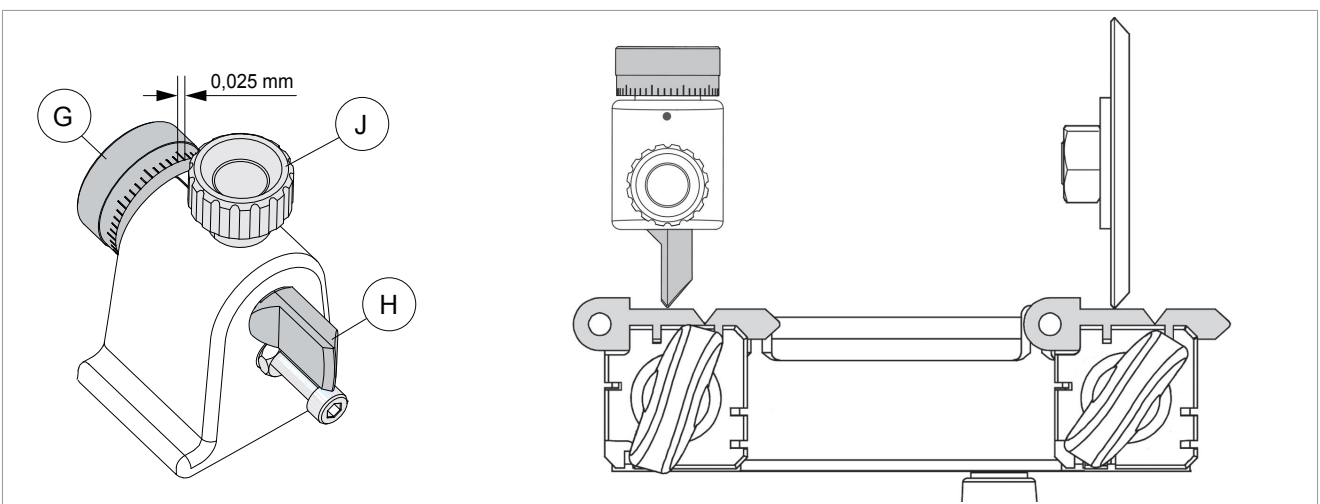
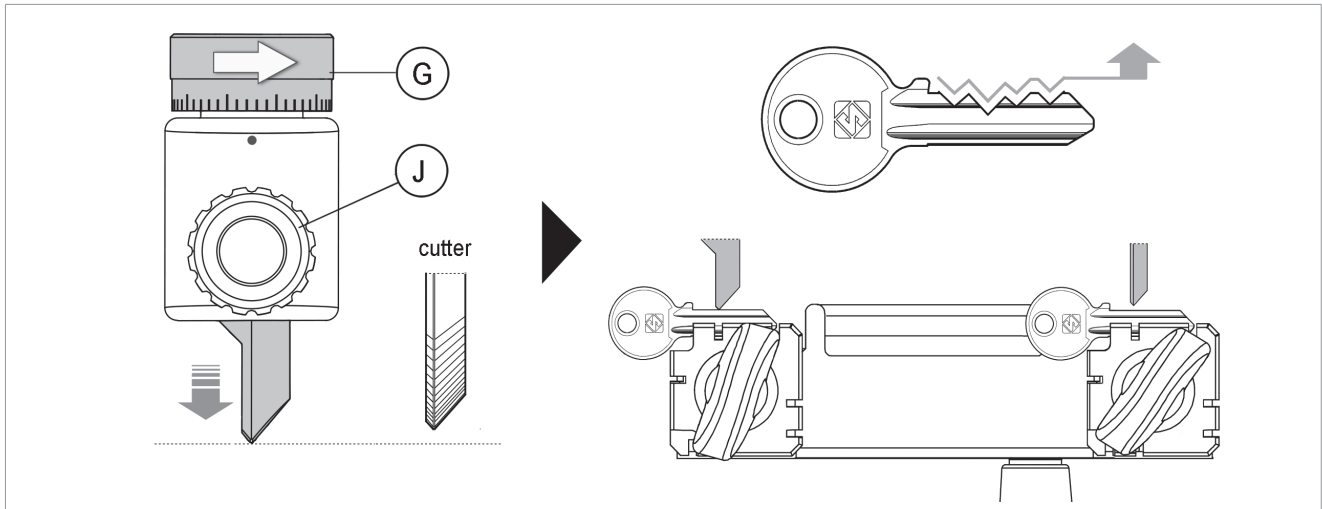

Fig. 21
Fig. 22
- 7) Move the keys into contact with the cutting tool and tracer point (Fig. 21).
- a) loosen the tracer point locking knob (J).
- b) turn the ring nut (G) clockwise to advance the tracer point (shallower cuts) (Fig. 22).
NOTE: each notch on the centesimal ring corresponds to 0,025 mm (.00098") (Fig. 21).